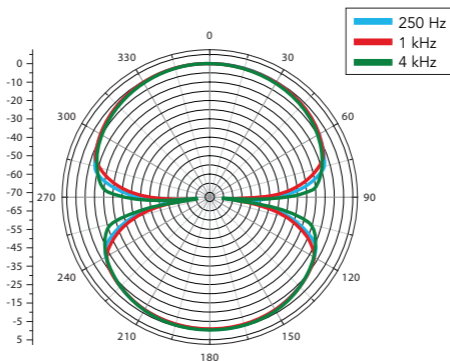

Figure 8
- When in the Figure 8 position (fully clockwise), the microphone picks up sound from in front and behind, and rejects sound from the other two sides. This pattern is commonly used for interviews (Two people with the microphone between them) or in conjunction with a cardioid microphone to use the MS (mid-side) stereo recording technique.